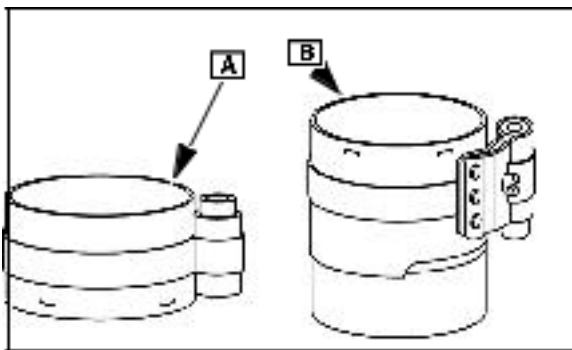

Fig. 18
2. Compress rings with Ring Compressor #19070 (A), or Ring Compressor #19230, ([B] Fig. 18).